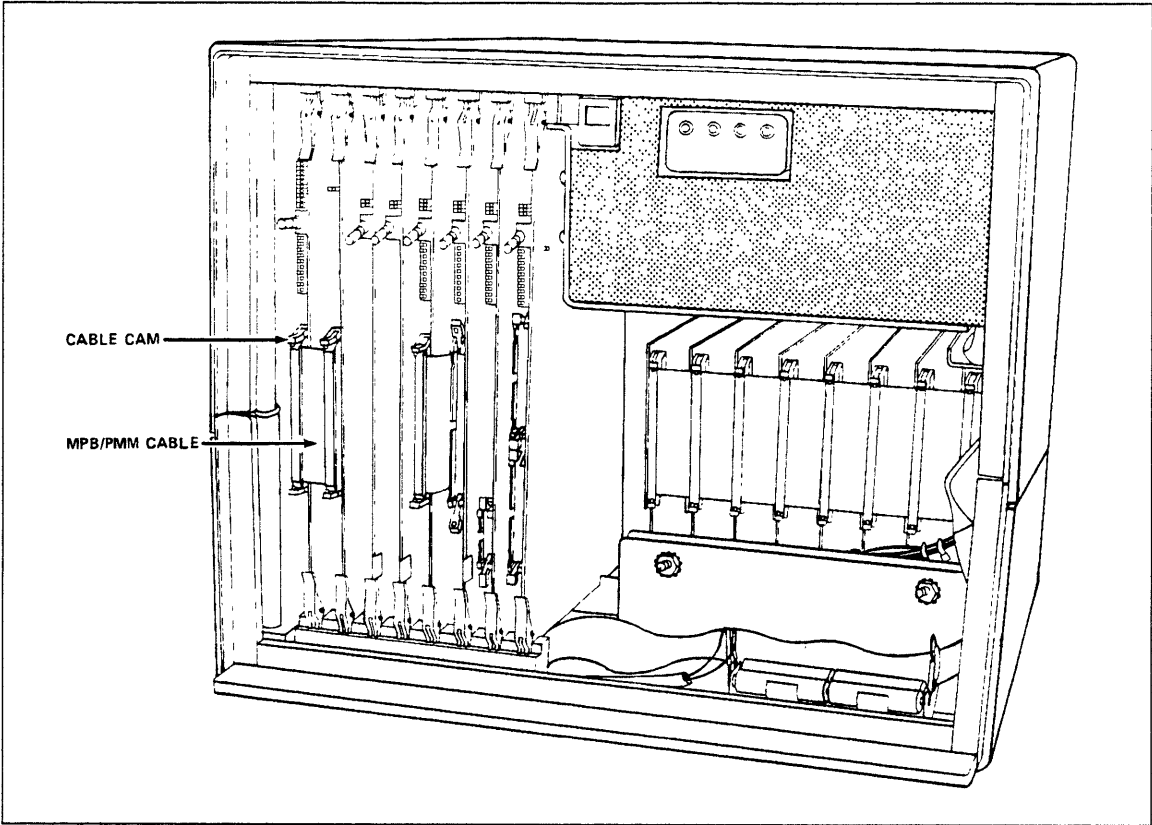

Figure 9-19. MPB/PMM Cable
3. Release MPB/PMM cable from boards by rotating upper and lower cams on connectors (figure 9-19) and remove cable.